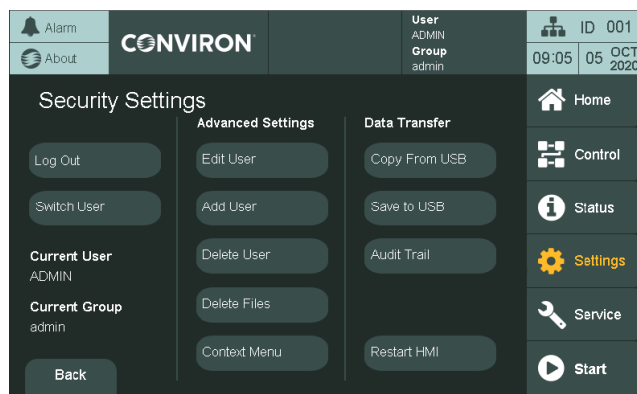

Figure 8-10 Audit Trails Icon
2. Once logged in as an administrator, the **Audit Trail** icon will be available in the **Security Settings** screen (Figure 8-10).